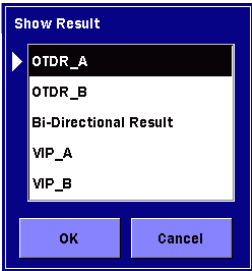

Figure 7.3.9-3 Show Result Dialog Box
1. Touch **Start Test** softkey or press **Start** , and you will see the Test/Results screen shown in Figure 7.3.9-1 “Test/Result Screen”.